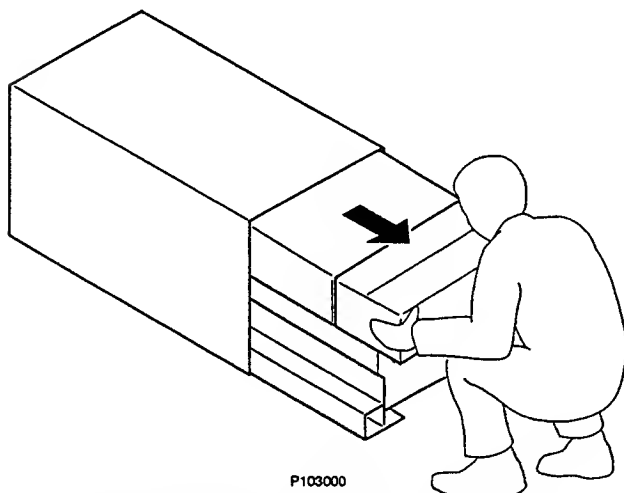

FIGURE 2: REMOVING GAME AND PARTS BOX
2) Two or more people should lay the carton on its side. Slide game and packing materials out from carton (see Figure 2). Open the parts box.